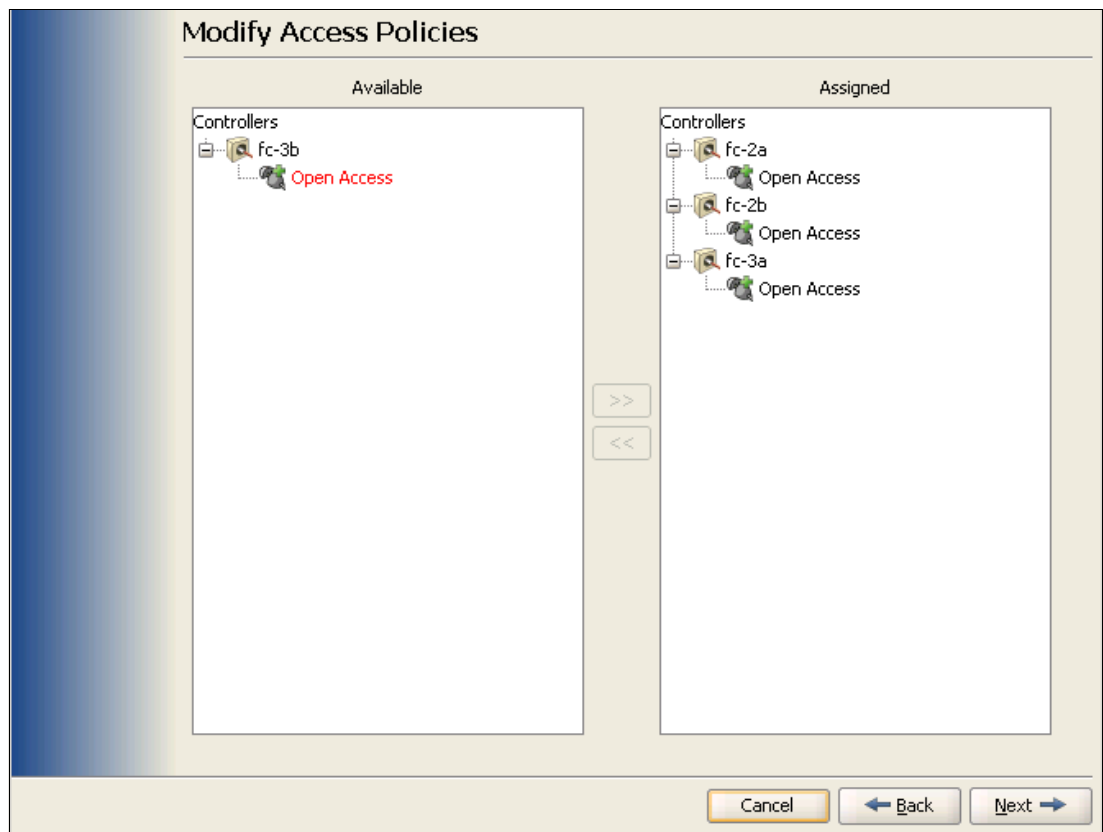

Figure 5-16 Modifying Access
2. A window with the Modify Access parameters opens, as shown in Figure 5-16. Click the controller ports for which you want to add / remove access, select the correct arrow, and click **Next**.